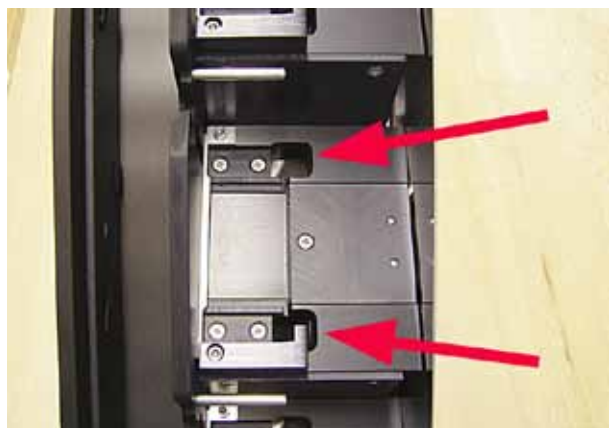

Fig. 44
- Station de chargement (→ "Fig. 44")